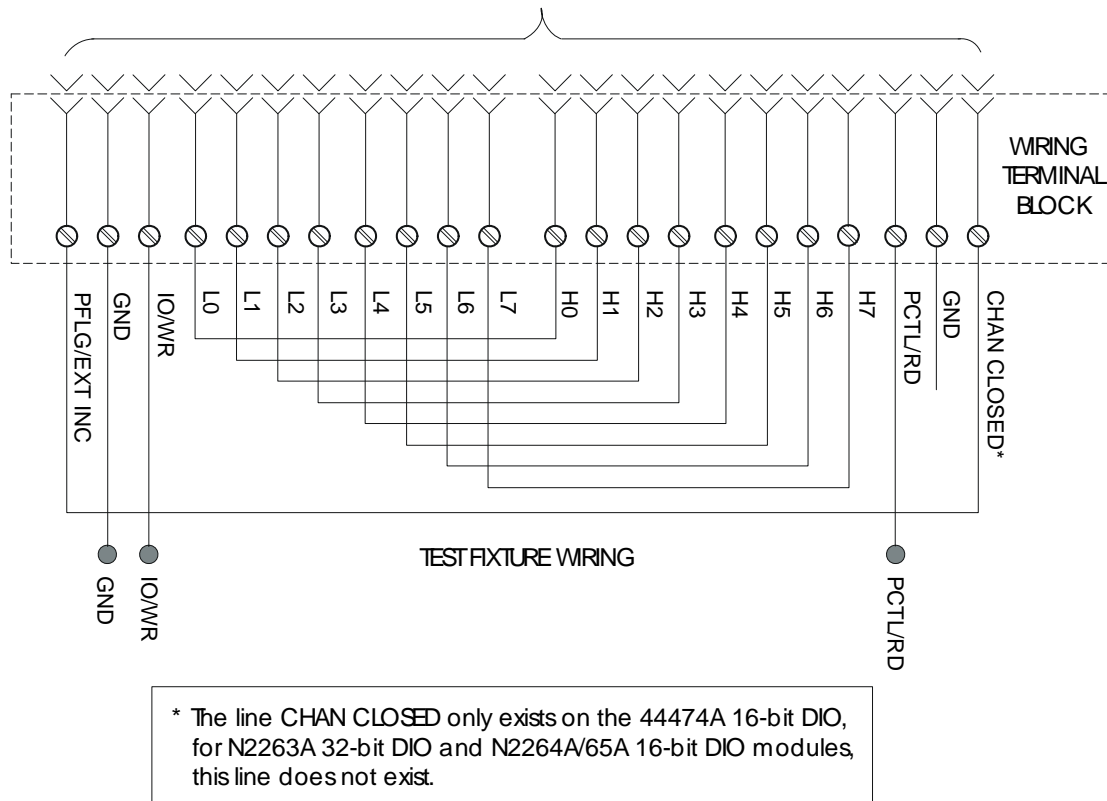

Figure 4-4. DIO Modules Test Fixture
The test fixture can be constructed by configuring the related DIO module's removable wiring terminal block as shown in Figure 4-4.
2. Connect the Multimeter between the GND and the PCTL/RD (or IO/WR) terminals on the test fixture (Figure 4-4 on Page 68) to measure dc voltage. The PCTL/RD (or IO/WR) line should be in the high state (between +2.4 V dc and +5 Vdc);